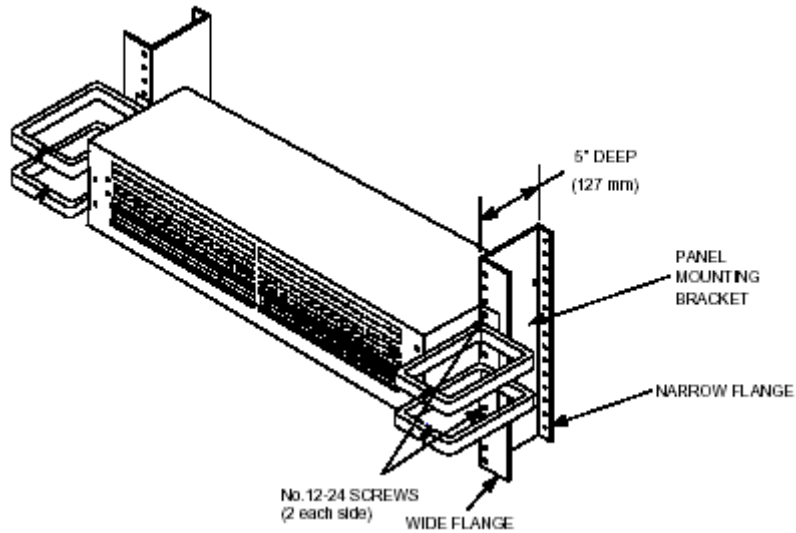

Figure 2. Mounting Panel in Frame
4. Place panel in existing 23-inch (580 mm) network bay frame at desired location and fasten with four No. 12-24 screws provided (see Figure 2).